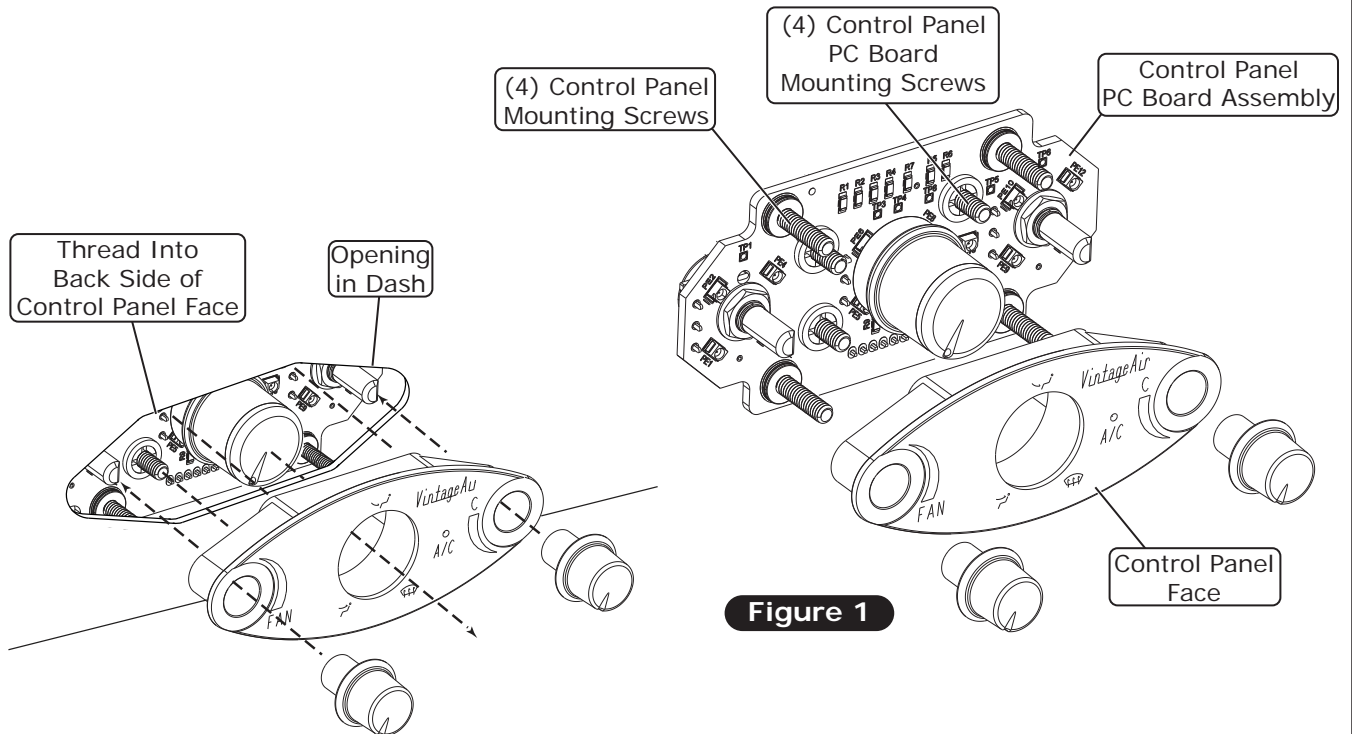

Figure 1
4. Install the control panel face through the opening in the dash. Place the control panel PC board assembly behind the dash, and secure it to the control panel face using the (4) 8-32 x 3/8" screws (See Figure 1 and 2a, Page 5). **NOTE: When tightening the control panel mounting screws, hand tighten until the screw contacts the back side of the dash. Then, using a screwdriver, tighten an additional 1/2 turn. Do not overtighten, as this may cause damage to the PC board or the dash.**
5. Install the control panel knobs (See Figure 1, Page 5).